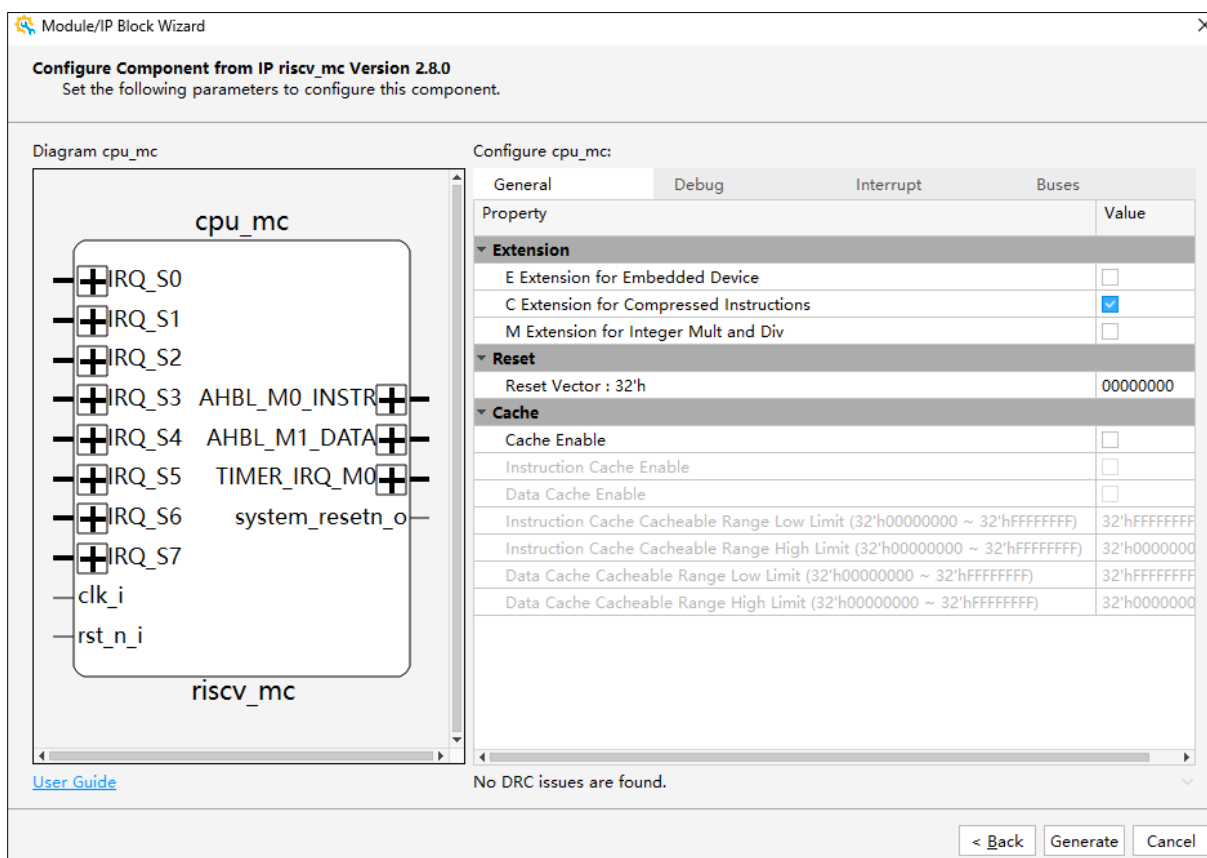

Figure 3.2. Configuring Parameters
2. Configure the parameters, as shown in Figure 3.2. Click **Generate**.